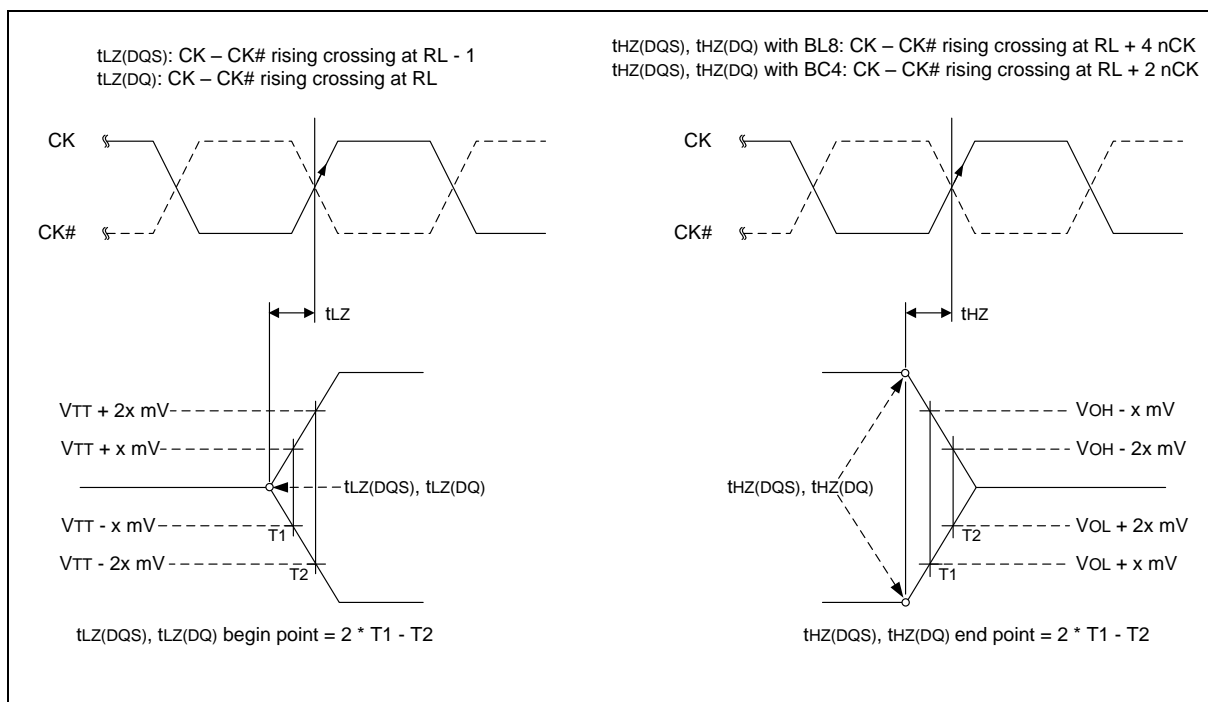

Figure 26 – tLZ and tHZ method for calculating transitions and endpoints
$t_{LZ}(DQS)$, $t_{HZ}(DQS)$ for preamble/postamble (see section 8.13.2.3 and Figure 26).
8.13.2.3 tLZ(DQS), tLZ(DQ), tHZ(DQS), tHZ(DQ) Calculation
tHZ and tLZ transitions occur in the same time window as valid data transitions. These parameters are referenced to a specific voltage level that specifies when the device output is no longer driving tHZ(DQS) and tHZ(DQ), or begins driving tLZ(DQS), tLZ(DQ). Figure 26 shows a method to calculate the point when the device is no longer driving tHZ(DQS) and tHZ(DQ), or begins driving tLZ(DQS), tLZ(DQ), by measuring the signal at two different voltages. The actual voltage measurement points are not critical as long as the calculation is consistent. The parameters tLZ(DQS), tLZ(DQ), tHZ(DQS), and tHZ(DQ) are defined as singled ended.